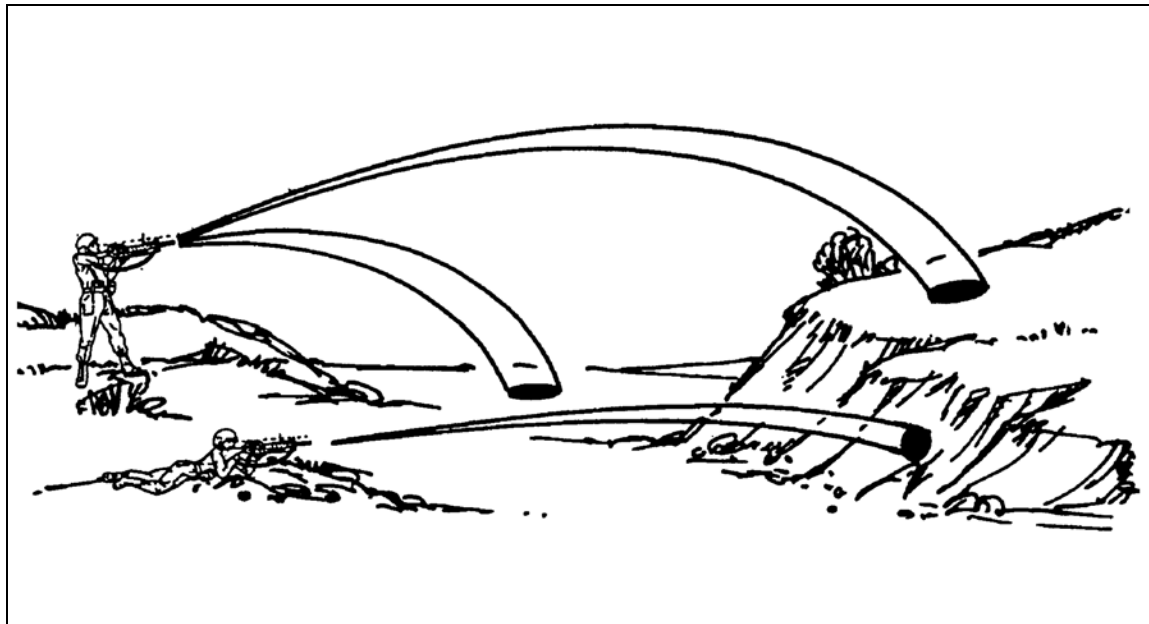

Figure 6-1. Plunging fire.
- a. **With Respect to the Ground.** For the M203 grenade launcher, this class of fire refers only to plunging fire. Plunging fire occurs when firing at long ranges, from high ground to low ground, into abruptly rising ground, or across uneven terrain, resulting in a loss of grazing fire at any point along the trajectory. For example, 40-mm grenades fired from the top of a hill follow an arcing trajectory and land in the valley. Figure 6-1 on page 6-2 shows an example of plunging fire.